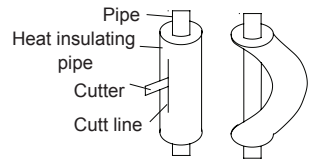

Fig.14
- (4). When bending the pipe, do not bend it as is. The pipe will be collapsed. In this case, cut the heat insulating pipe with a sharp cutter as shown in Fig.14, and bend it after exposing the pipe. After bending the pipe as you want, be sure to put the heat insulating pipe back on the pipe, and secure it with tape.
- ① . To prevent breaking of the pipe, avoid sharp bends. Bend the pipe with a radius of curvature of 150 mm or over.
- ② . If the pipe is bent repeatedly at the same place, it will break.